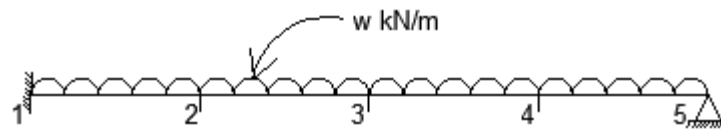

Fig. 1
8. A propped cantilever  $AB$  fixed at  $A$  and propped at  $B$  is of length  $L$  and has constant flexural rigidity  $EI$ . The cantilever supports a udl of  $w$  kN/m over the whole length as shown in Fig. 1. Using 4 subintervals, estimate the deflection at pivotal points using 4th order differential equations.